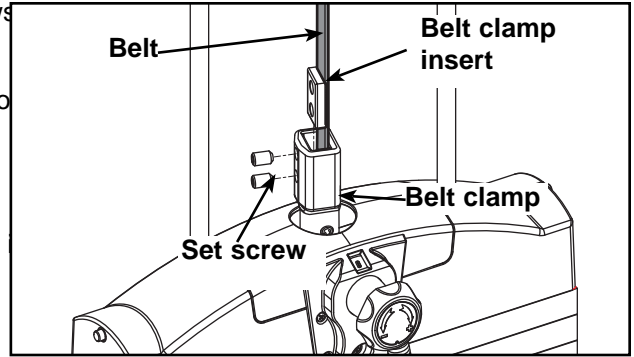

Figure 9
**NOTE:** Torque set screws 300-350 in.lbs. See Figure 9.